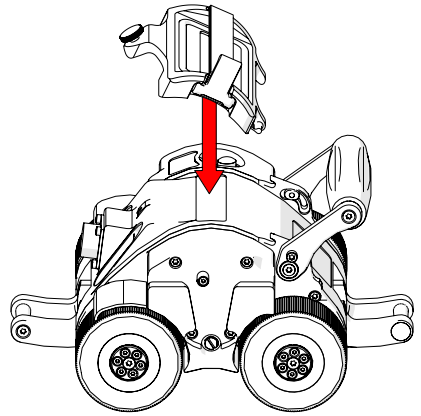

Fig. 80 - Angle backpack
1. Angle the backpack (Fig. 80) towards the notches found on the crawler (located near the base of the handle).